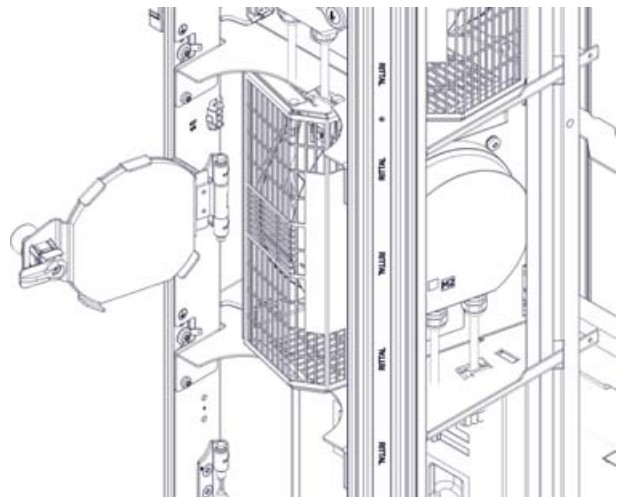

Fig. 39: Rotated fan module in fan tray
- Rotate the fan module in the rack by 90° in a counter-clockwise direction (fig. 39).